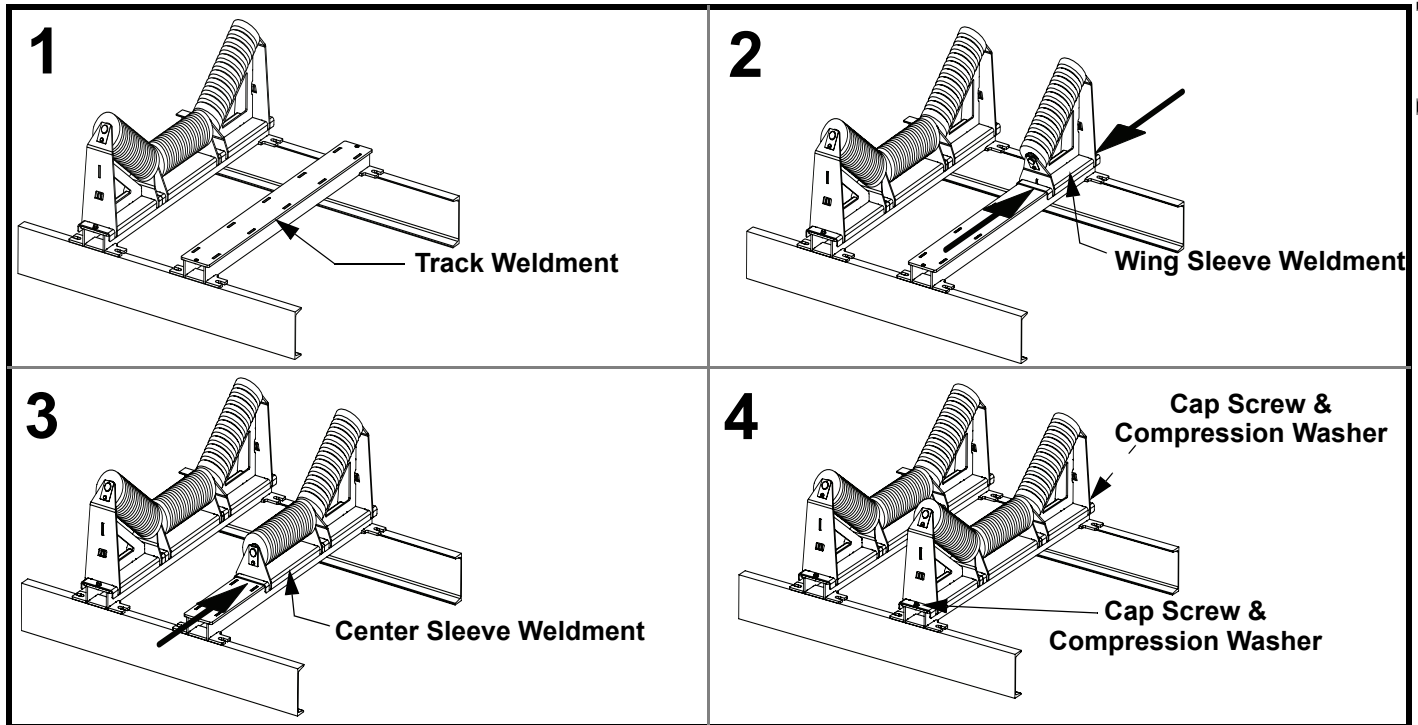

Figure 1. Installing Idlers
2. See Figure 1. Attach track weldment to stringers using supplied hardware. Make sure track weldment is 90° to belt travel.